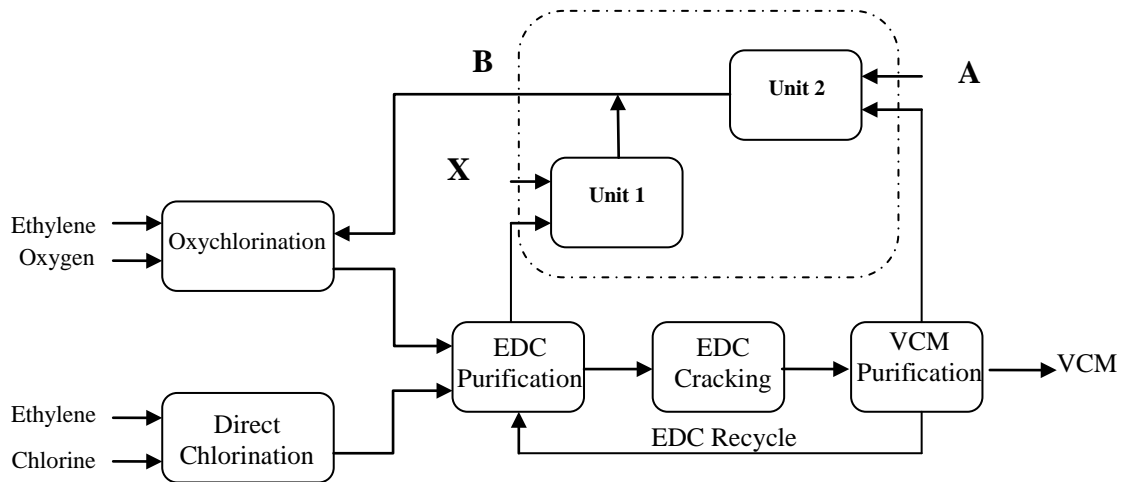

Figure 2: VCM manufacturing process
- (a) In order to increase the efficiency of vinyl chloride monomer (VCM) production process, 2 new units were employed to the system (designated as **Unit 1** and **Unit 2** in the PFD). Name the two units and briefly describe the processes occurred (refer to Figure 2).